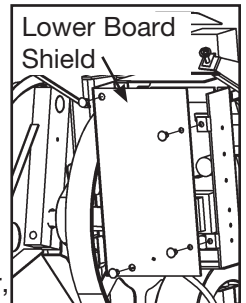

Figure 8
- A. Pull out on the lower board shield (it will snap out). See Figure 8.
- E. Place the shield into position and secure using the four new finned fasteners supplied with this kit (the shield will snap in). See Figure 8.